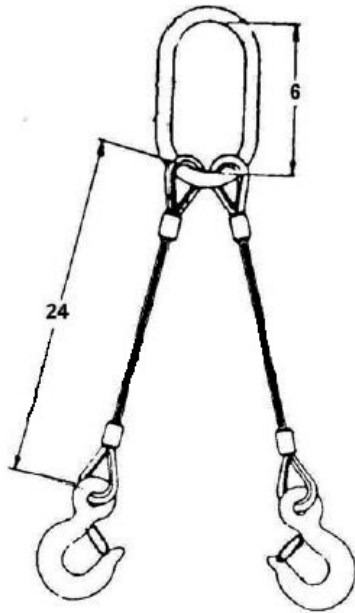

Figure 1-3. Bomb sling assembly.
In your career, you will come across many different types of lifting slings. These slings are made of different types of material (steel chain, wire rope, metal mesh, synthetic webbing, etc.), each having its own peculiarities for use and safety. The most common sling you use is the wire rope, as shown in figure 1-3. Wire ropes can be used in handling all general-purpose (GP) bombs, cluster bomb units (CBU), and even missiles.